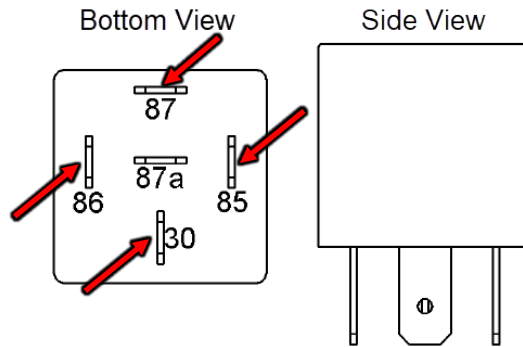

Figure F.3
- A.3. Perform the static measurements on CR2 in Test Table 1, refer to Figure F.3 for test point locations.